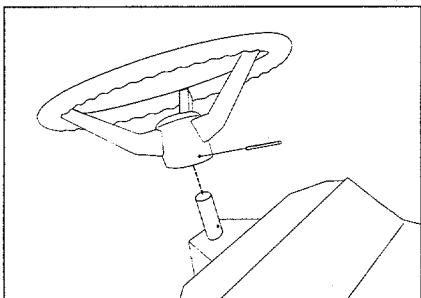

Figure 2-5: Slide the steering wheel over the steering column. Align the holes and tap the roll pin through the holes to secure the wheel.
2. Turn the wheel slowly until the holes in the wheel hub are aligned with the holes in the steering column. See Figure 2-5. When aligned, tap the roll pin through the hub and the column. Use the punch to tap the roll pin in until it is flush with the hub.